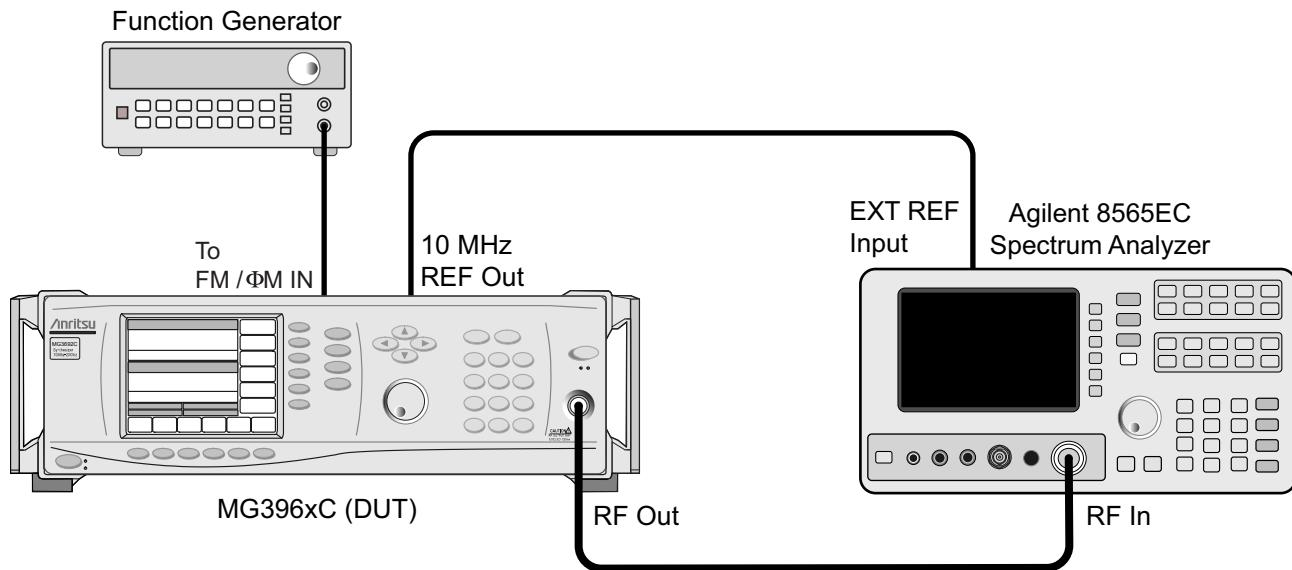

Figure 4-12. Equipment Setup for Frequency/Phase Modulation Flatness and Bandwidth Tests
Set up the equipment, shown in Figure 4-12, as follows:
1. Connect the equipment as shown in Figure 4-12.